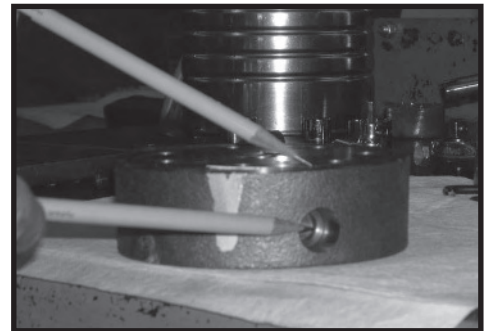

Figure 9
**NOTE: O-ring (22) is not included in seal kits but serviced separately if required.**
**NOTE: The insert and if included the orifice plug in the end cover (2) must not be removed as they are serviced as an integral part of the end cover.**
6. Thoroughly wash end cover (2) in proper solvent and blow dry. Be sure the end cover valve apertures, including the internal orifice plug, are free of contamination. Inspect end cover for cracks and the bolt head recesses for good bolt head sealing surfaces. Replace end cover as necessary. SEE FIGURE 9.